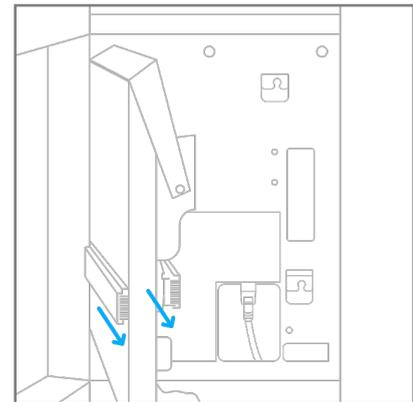

Figure 26.
Step 2: Slide the LED modules out towards the right (Figure 26.).